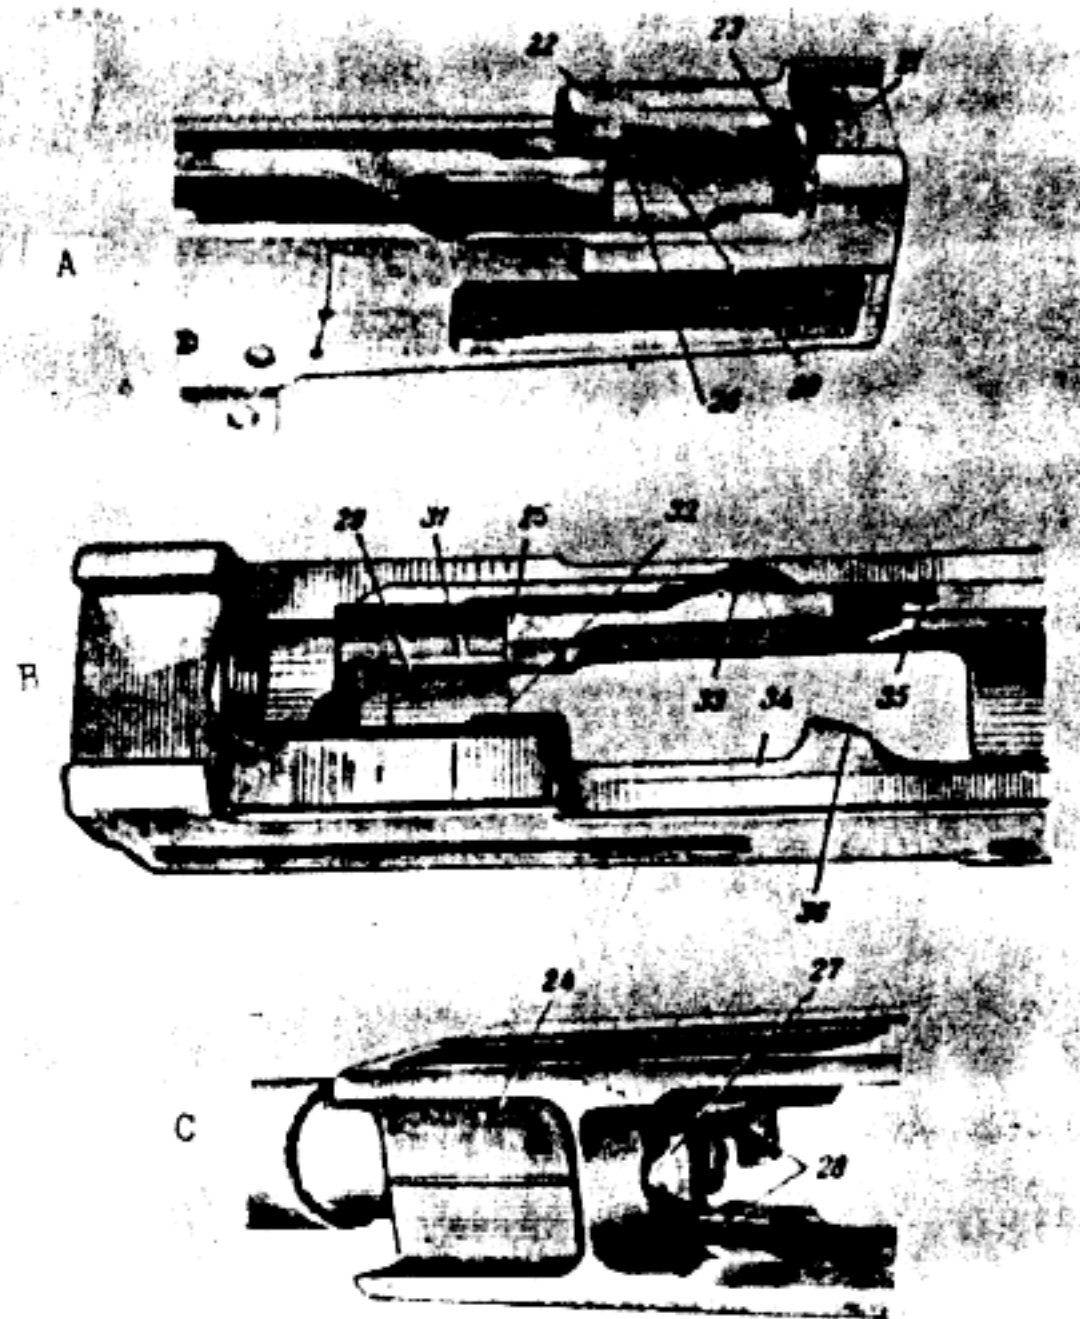

Figure 10. Forward portion of receiver.
In the top portion of the receiver (fig. 10) there is a groove (21) for the rear portion of the rear sight base; lug (22) in which the left locking lug is formed; shoulder (23)
The bolt lugs engage the receiver lugs to seal the bore. The left lug (5) has a bevel, which together with the screw bevel of the cam (30) (see fig. 10) rotates the bolt a certain amount when the bore is about to be sealed. The lower edge (10) of the right lug together with the receiver cam limits rotation of the bolt to the right when the bore is being sealed.